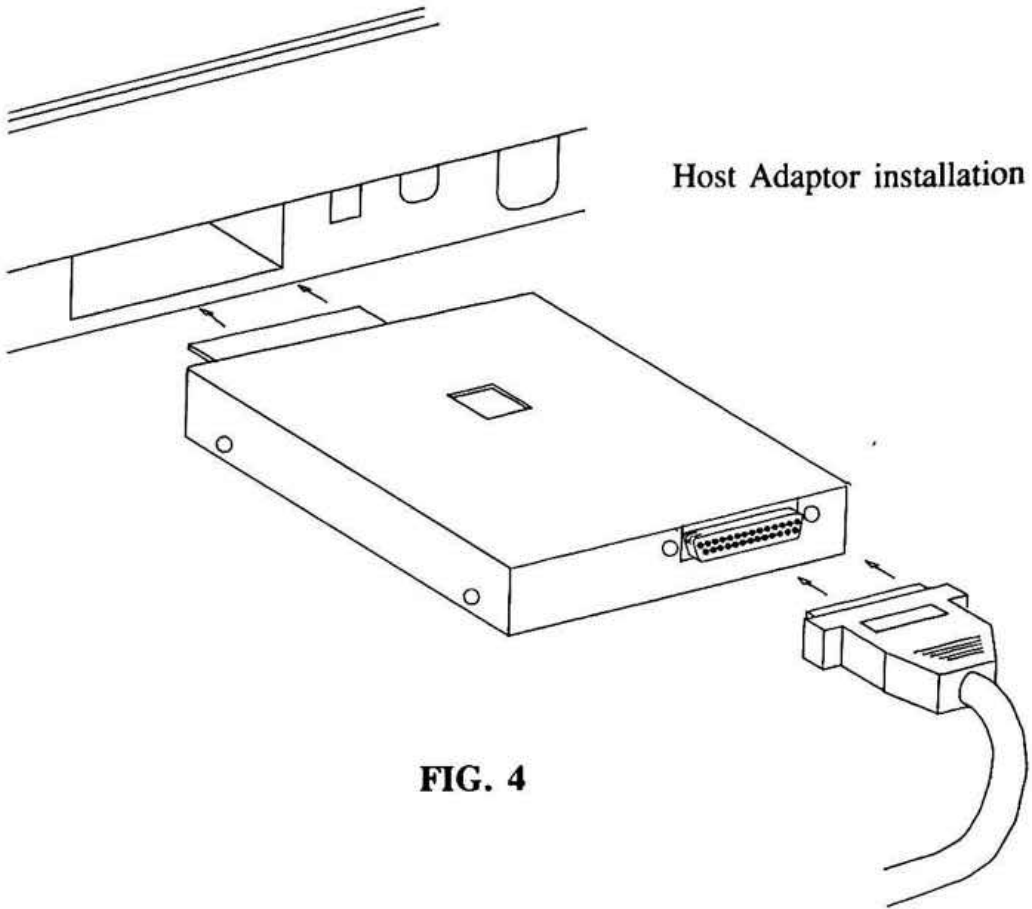

FIG. 4
Step 5 - Locate the 25 pin SIGNAL cable, plug one end into the connector on the rear of the Host Adaptor and secure the cable with the attached screws. Refer to FIG 4.
Step 12 - Locate the 25 pin SIGNAL cable, plug one end into the connector on the rear of the Host Adaptor and secure the cable with the attached screws. Refer to FIG 4.